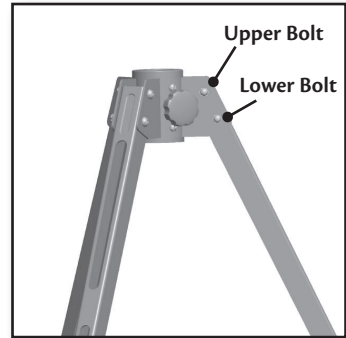

Figure 6
1. Fully extend the legs and install the three lower bolts and the nuts that secure them. Figure 6.